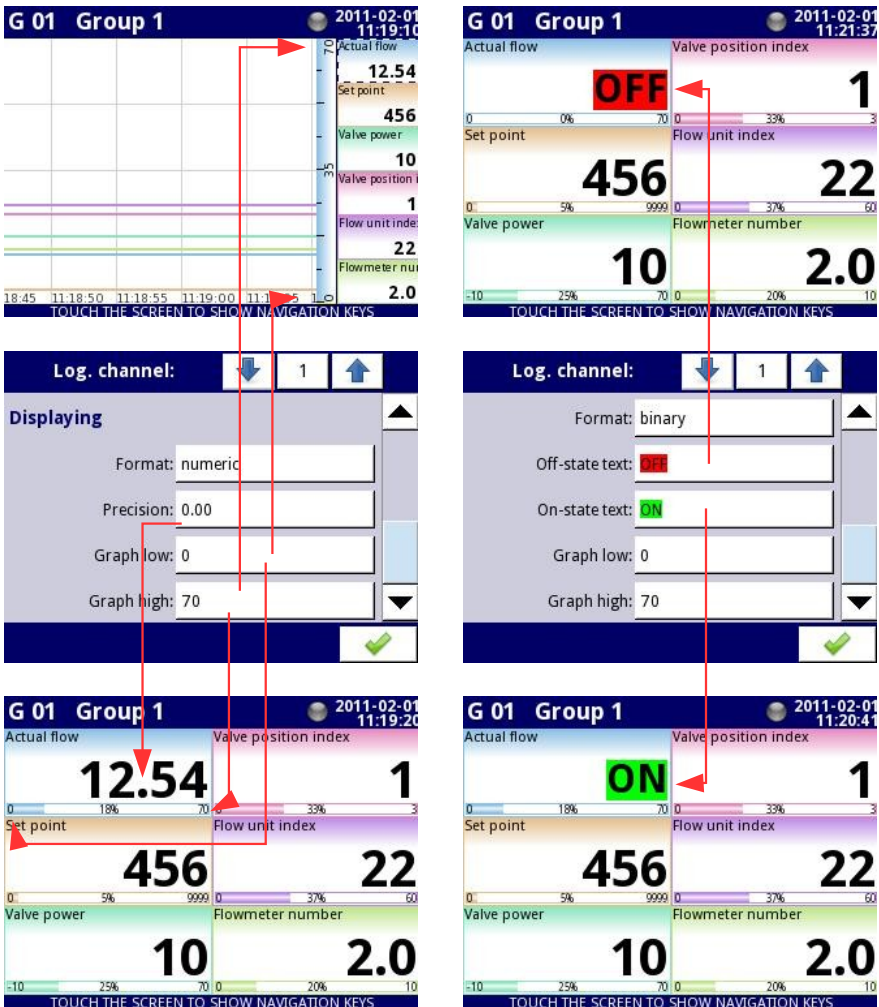

Fig. 7.45. Input channels menu – 2 different kinds of Displaying parameters
- **Precision** – this parameter occurs when the **Format** parameter is set as **numeric** or **time**, which specifies the precision to be displayed on the output value (see **Fig. 7.45**),
- **Graph low** – the minimum range value for graphs, bars, needle dials and percentage bars (see Fig. 7.45),
- **Graph high** – the maximum range value for graphs, bars, needle dials and percentage bars (see Fig. 7.45),